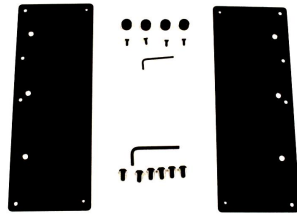
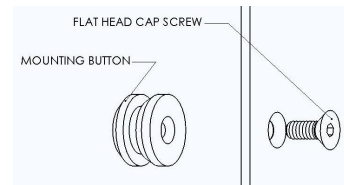

Figure 1
Figure 2
1. Using a 10-24 flat head cap screw inserted from chamfered hole side of bracket, secure mounting button, with chamfered hole of mounting button (larger surface), to bracket (four places) (see Figure 1 & Figure 2)